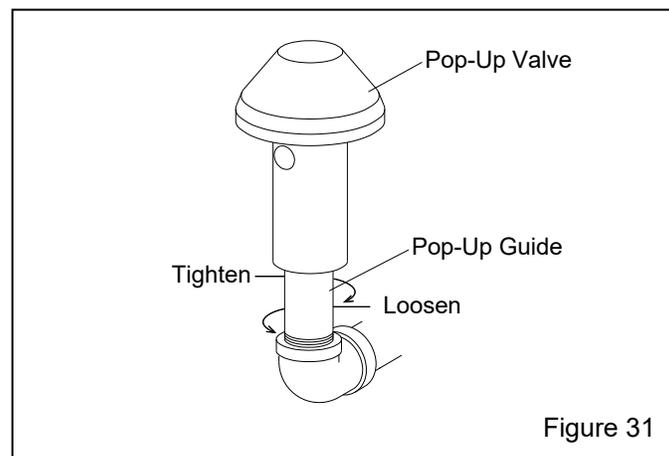

Figure 31
**7.10.5** Use a short pipe wrench to unscrew the pop-up valve guide from the elbow by turning it counterclockwise, as shown in Figure 31. Remove the pop-up valve and guide from the machine.